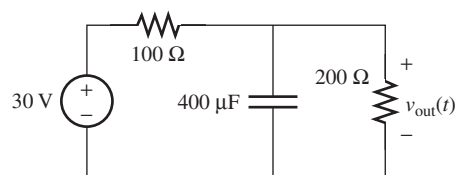

FIGURE P5.32 Circuit for Problem 5.32.
- 5.32 (H)* Find the expression of $v_{out}(t)$ in Figure P5.32.